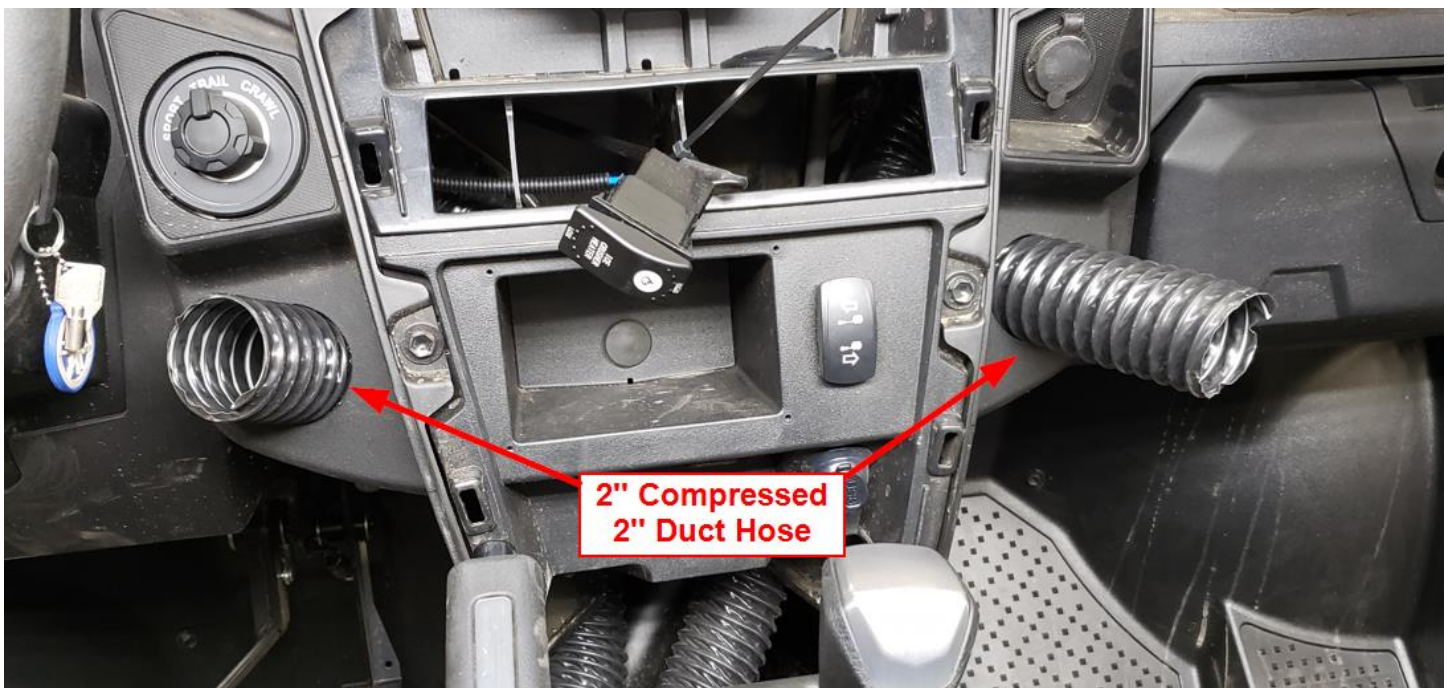

Figure 23
- f. Route the (2) 2" pieces of compressed duct hoses through the front dash openings on both driver and passenger sides as shown in Figure 23. Route the (2) 5" pieces of compressed duct hose through the defrost openings as shown in Figure 24.